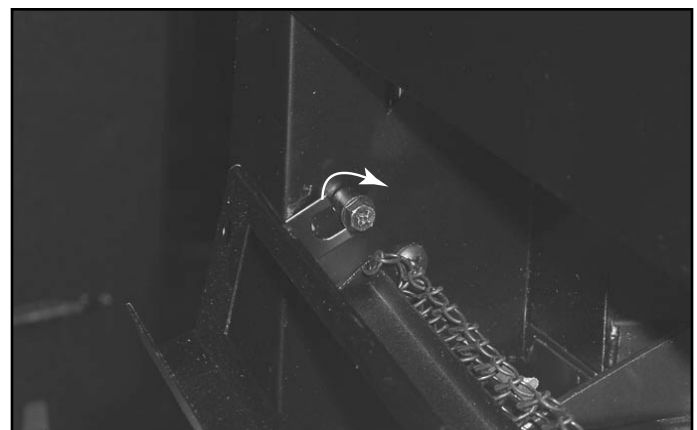

Figure 14.10 Attach Top Grill - Left Side Shown
- Place the tabs of the top grill over the shoulder screws on each end. See Figure 14.10.